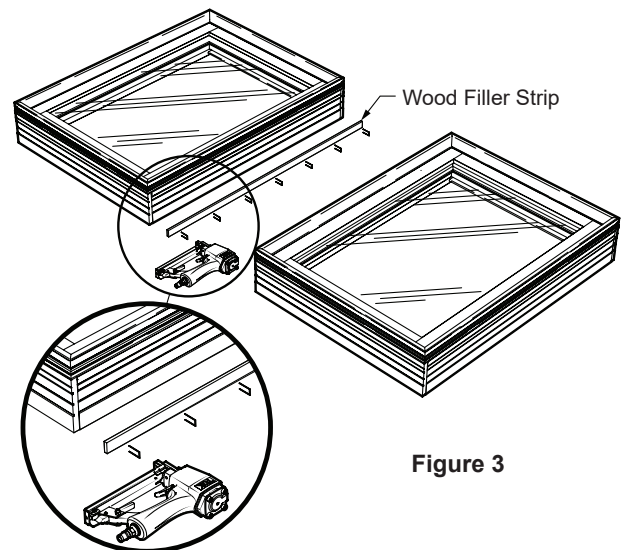

Figure 3
3. Lay the units on a flat surface with the exterior side up. Attach the 1/4" x 7/8" wood filler strip to the side jamb with 1" nails or staples spaced 8-12" apart. Filler strip must be flush with the interior side of window or door and centered on the frame. (Figure 3)